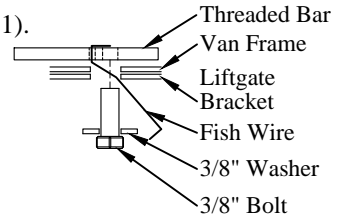

Figure 11: Threaded bar.
14. **Position** the threaded bar so that the 3/8-16 hole is visible through the hole in the bracket (Figure 11).